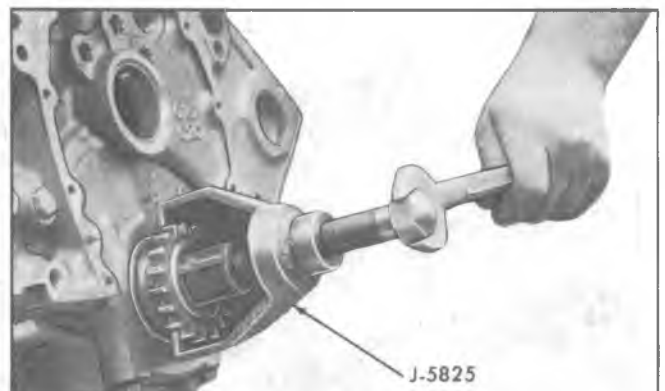
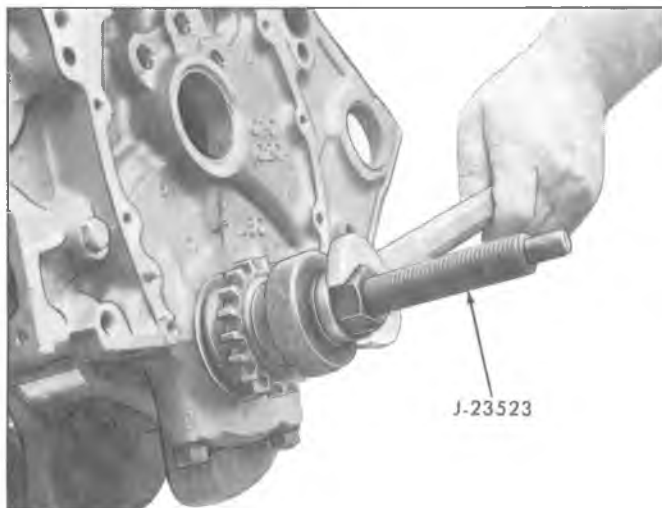
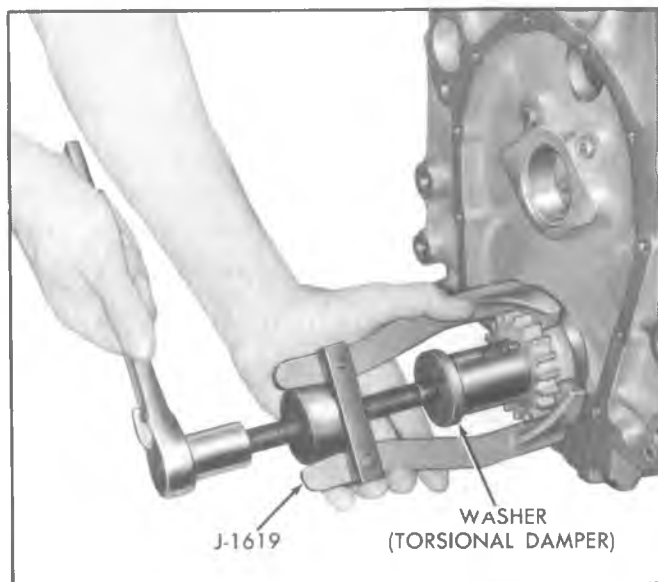

Fig. 14V—Removing Crankshaft Sprocket (Small V8)
Fig. 15V—Installing Crankshaft Sprocket
Fig. 16V—Removing Crankshaft Sprocket (Mark IV V8)
5. If crankshaft sprocket is to be replaced on Small V8 engines remove sprocket using Tool J-5825 (fig. 14V). Install new sprocket using bolt and nut from J-23523 (fig. 15V). On Mark IV V8 engines remove sprocket using Tool J-1619 (fig. 16V). install new sprocket using bolt and nut from Tool J-23523 (fig. 15V).